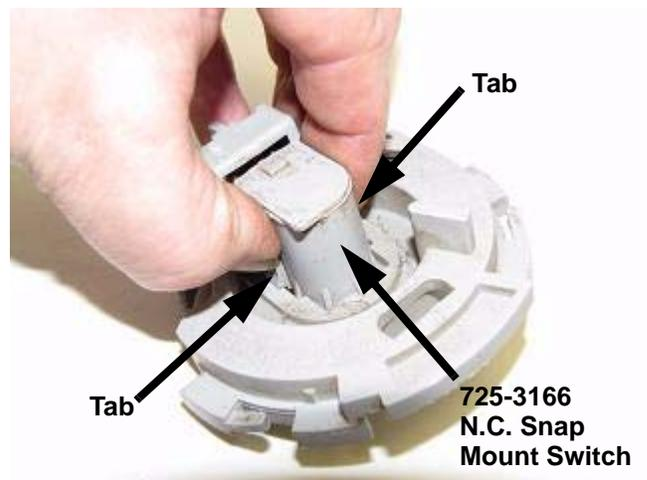
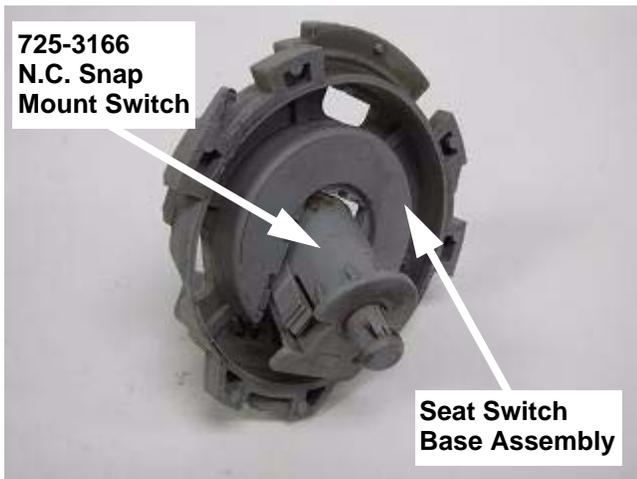

FIGURE 7
FIGURE 8
14. Remove the switch from the seat switch base assembly by depressing the two side tabs inward while pushing the N.C. snap mount switch out of the seat switch base assembly. See Figure 7 and Figure 8.